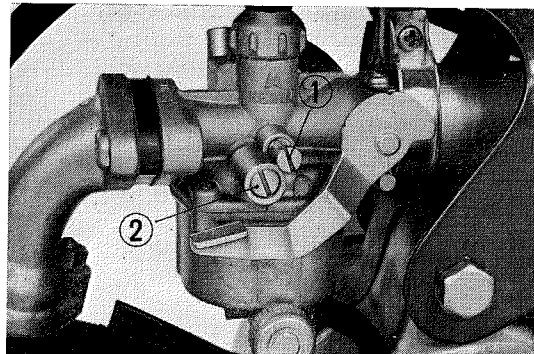

Fig. 7 Carburetor
1. Turn the throttle stop screw counterclockwise to the point where the engine idle speed is slow and smooth. (Fig. 7)